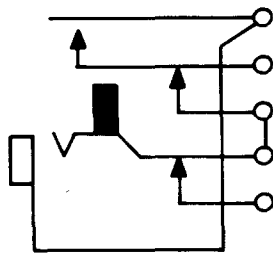

Fig. 16—485C Jack
**2.11 485C**: This single-mounted jack (Fig. 16) is intended to be mounted with the springs in a vertical plane. This jack is designed to be used with the 347 or similar-type plugs. The 485C jack replaces the 236E jack.